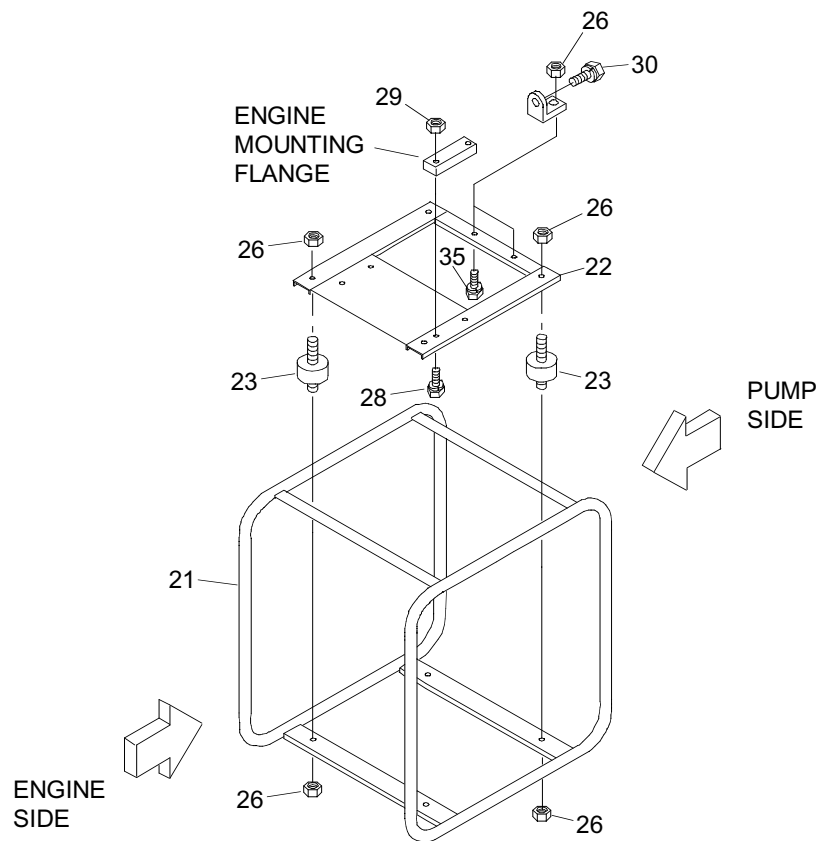

Figure 4-9: Exploded View for Frame and Base of Model TE3-100HA Pump
- Refer to Figure 4-9 for location of parts used on Models TE3-100HA.
B. Replacement of Engine Cushions (23) on Model TE3-100HA.
- (1) Remove pump components according to the instructions in **4-11. Remove Centrifugal Pump**.
- (2) Remove nuts (26) and bolts (28) from base (22). Remove engine (33) from base (22).
- (3) Remove nuts (26) from threaded ends of cushions (23).
- (4) Lift the base (22) from cushions (23).
- (5) Remove nuts (26) from underside of frame (22) and check cushions for damage. Replace damaged cushions.
- (6) Install threaded end of new cushions (23) through holes at pump end of frame (21). Secure with nuts (26).
- (7) Install short end of new cushions (23) through holes at engine end of frame. Secure with nuts (26).